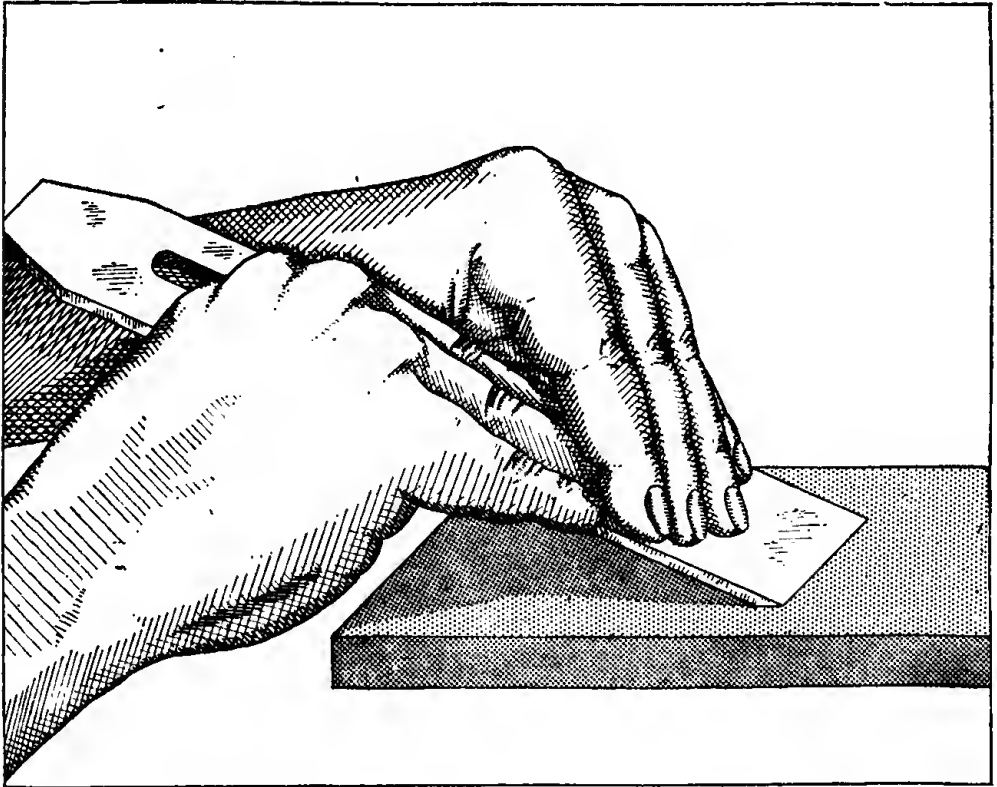

Figure 98. Sharpening a plane blade.
(3) To sharpen a plane blade it should be held on an oil stone as shown in figure 98. Held in this position, it is moved around on the stone. The movement may be back and forth, circular, or figure eight, but it should cover the entire surface of the stone so that the stone will wear evenly. The rubbing against the stone should be continued until the wire edge is developed on the back of the edge. (See fig. 99.) The blade is then turned over, laid flat on the oil stone, and moved around in order to bend the wire edge the other way. It must be laid flat or the blade will have a bevel on the back and will not cut properly. (See fig. 100.) The blade is then turned over and rubbed on the beveled edge again. This